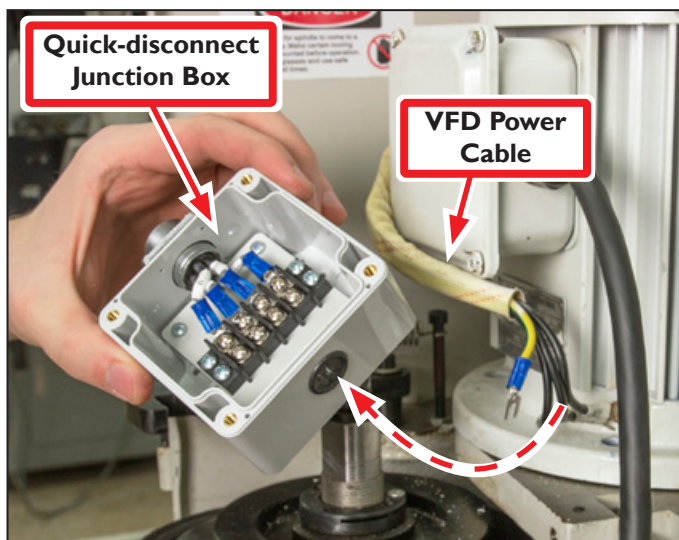
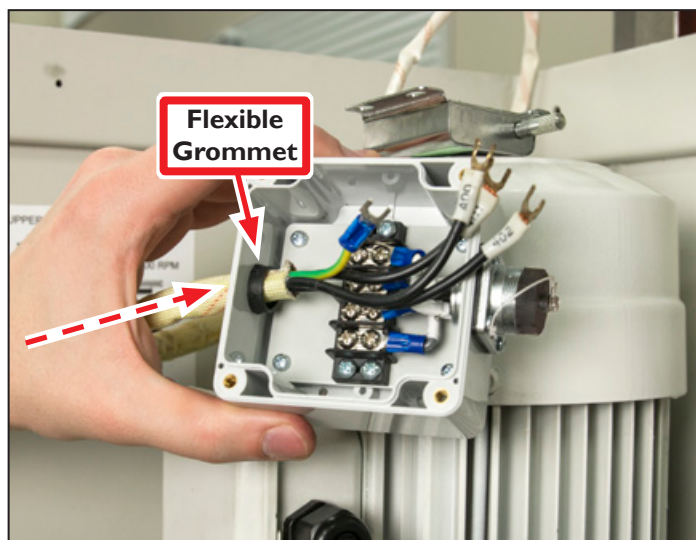

Figure 16
Figure 17
3. Remove the cover plate from the provided Quick-Disconnect Junction box with a #2 Phillips screwdriver (see **Figure 16**).
4. Find the VFD Power Cable that you removed from the Motor Junction Box earlier (see **Figure 16**).
5. Put the VFD Power Cable through the Flexible Grommet in the Quick-Disconnect Junction Box (see **Figure 16** and **Figure 17**).